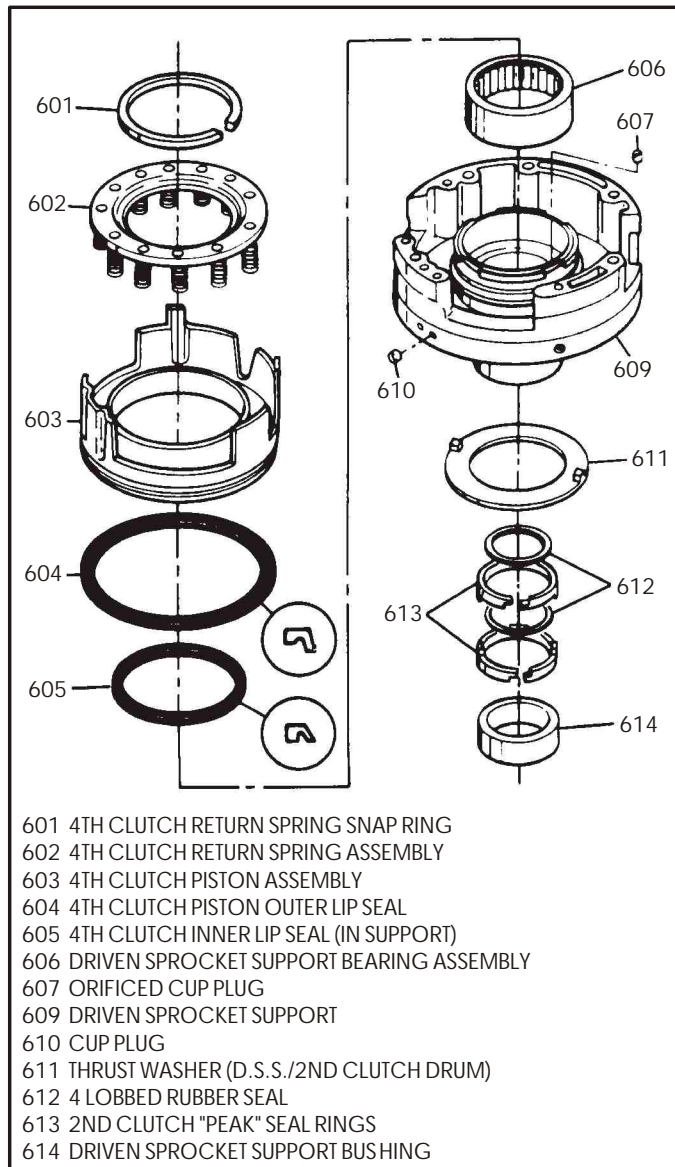

Figure 126
8. Install new inner lip seal onto the support and lubricate with petrolatum (See Figure 126).
9. Install new outer lip seal onto the 4th clutch piston and lubricate with petrolatum. Refer to Figure 126.
10. Install 4th clutch piston into the driven sprocket support until it fully seats (See Figure 126).
11. Install the 4th clutch return spring assembly in driven sprocket support (See Figure 126).